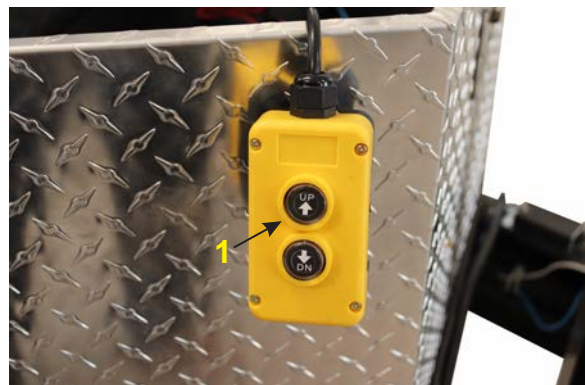

Figure 3-19 – Hydraulic Raise Button
- g. Press and hold UP button (1, Figure 3-19) on the controller to raise the dump body.